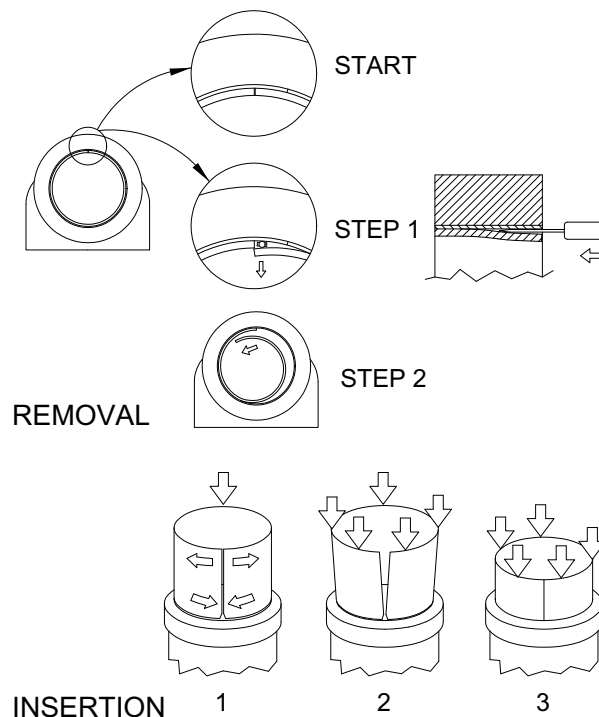

Figure 9: wear ring Inspection & Removal Instructions
1. Find the joint in the wear ring [3] and force a long thin screw driver between the wear ring [3] and the Insulator [4], adjacent to the wear ring joint, until the end of the wear ring is free. **See Step 1 Figure 9: "wear ring Inspection & Removal Instructions".**
2. Pull the free end of the wear ring inwards and remove it from the intake. **See Step 2 Figure 9: "wear ring Inspection & Removal Instructions",**